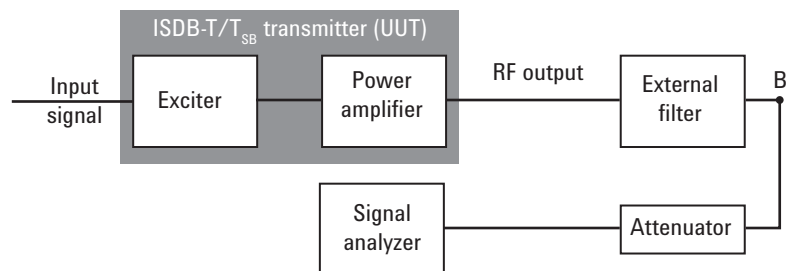

Figure 33. Diagram for spectrum mask measurement on an ISDB-T/ $T_{SB}$  transmitter without output filter
**Method 2:** If the transmitter does not have an output filter, an external filter with a band-block filter frequency response should be added after the transmitter for the measurement arrangement, as shown in Figure 33.
2. Measure the signal transmitted at point B as shown in Figure 33.
3. Apply amplitude correction on the spectrum value measured in (2) using the filter’s response from (1).